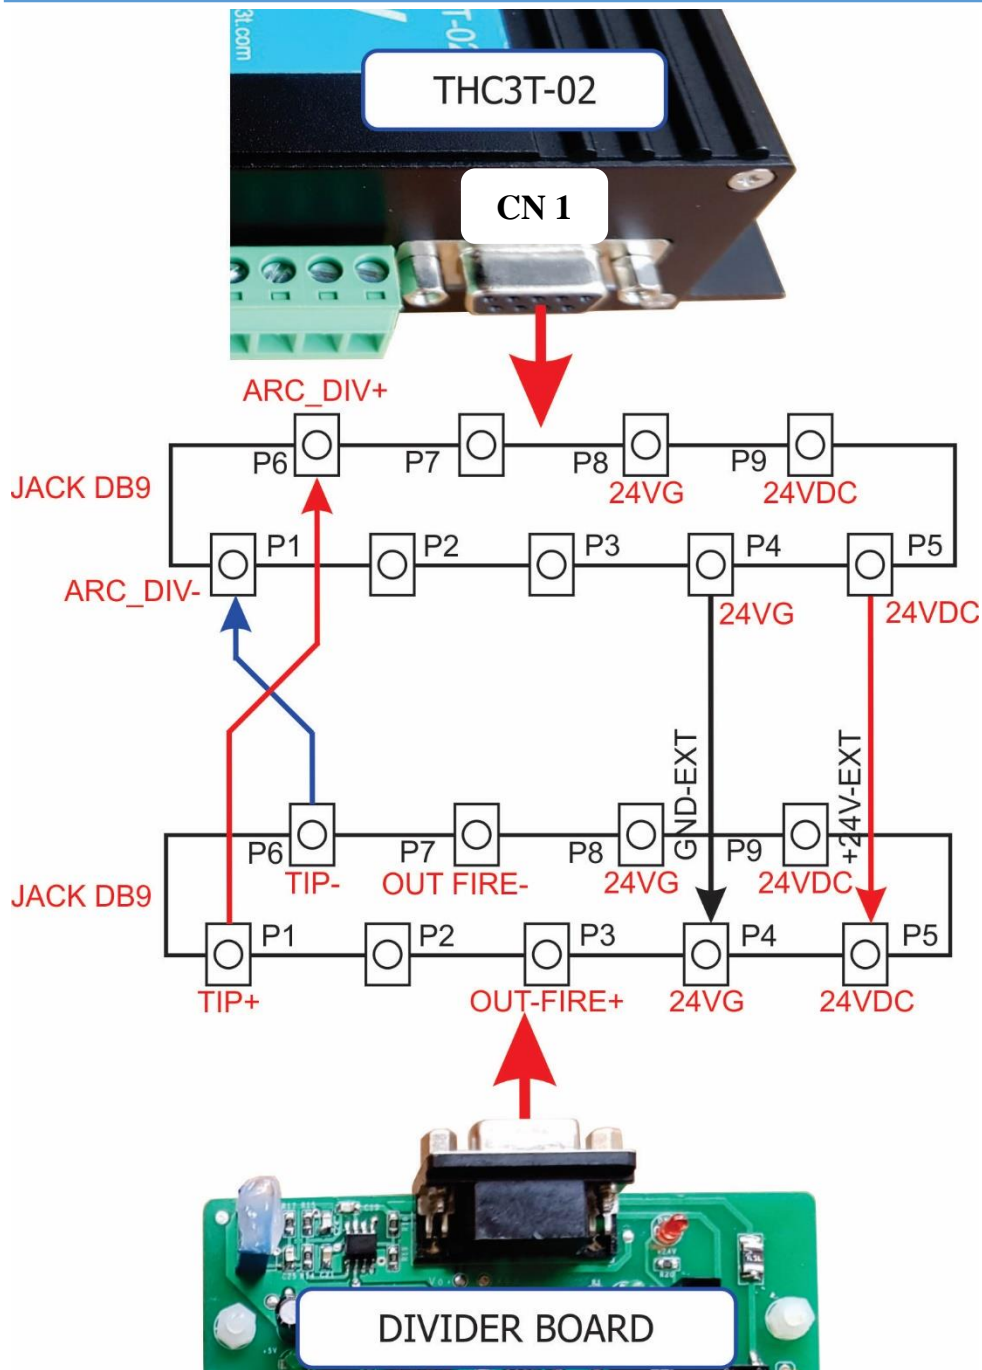

Fig 6. Connect Arc-voltage from DIVIDER board
- Step 6: Connect Arc-voltage (fig. 6&7)